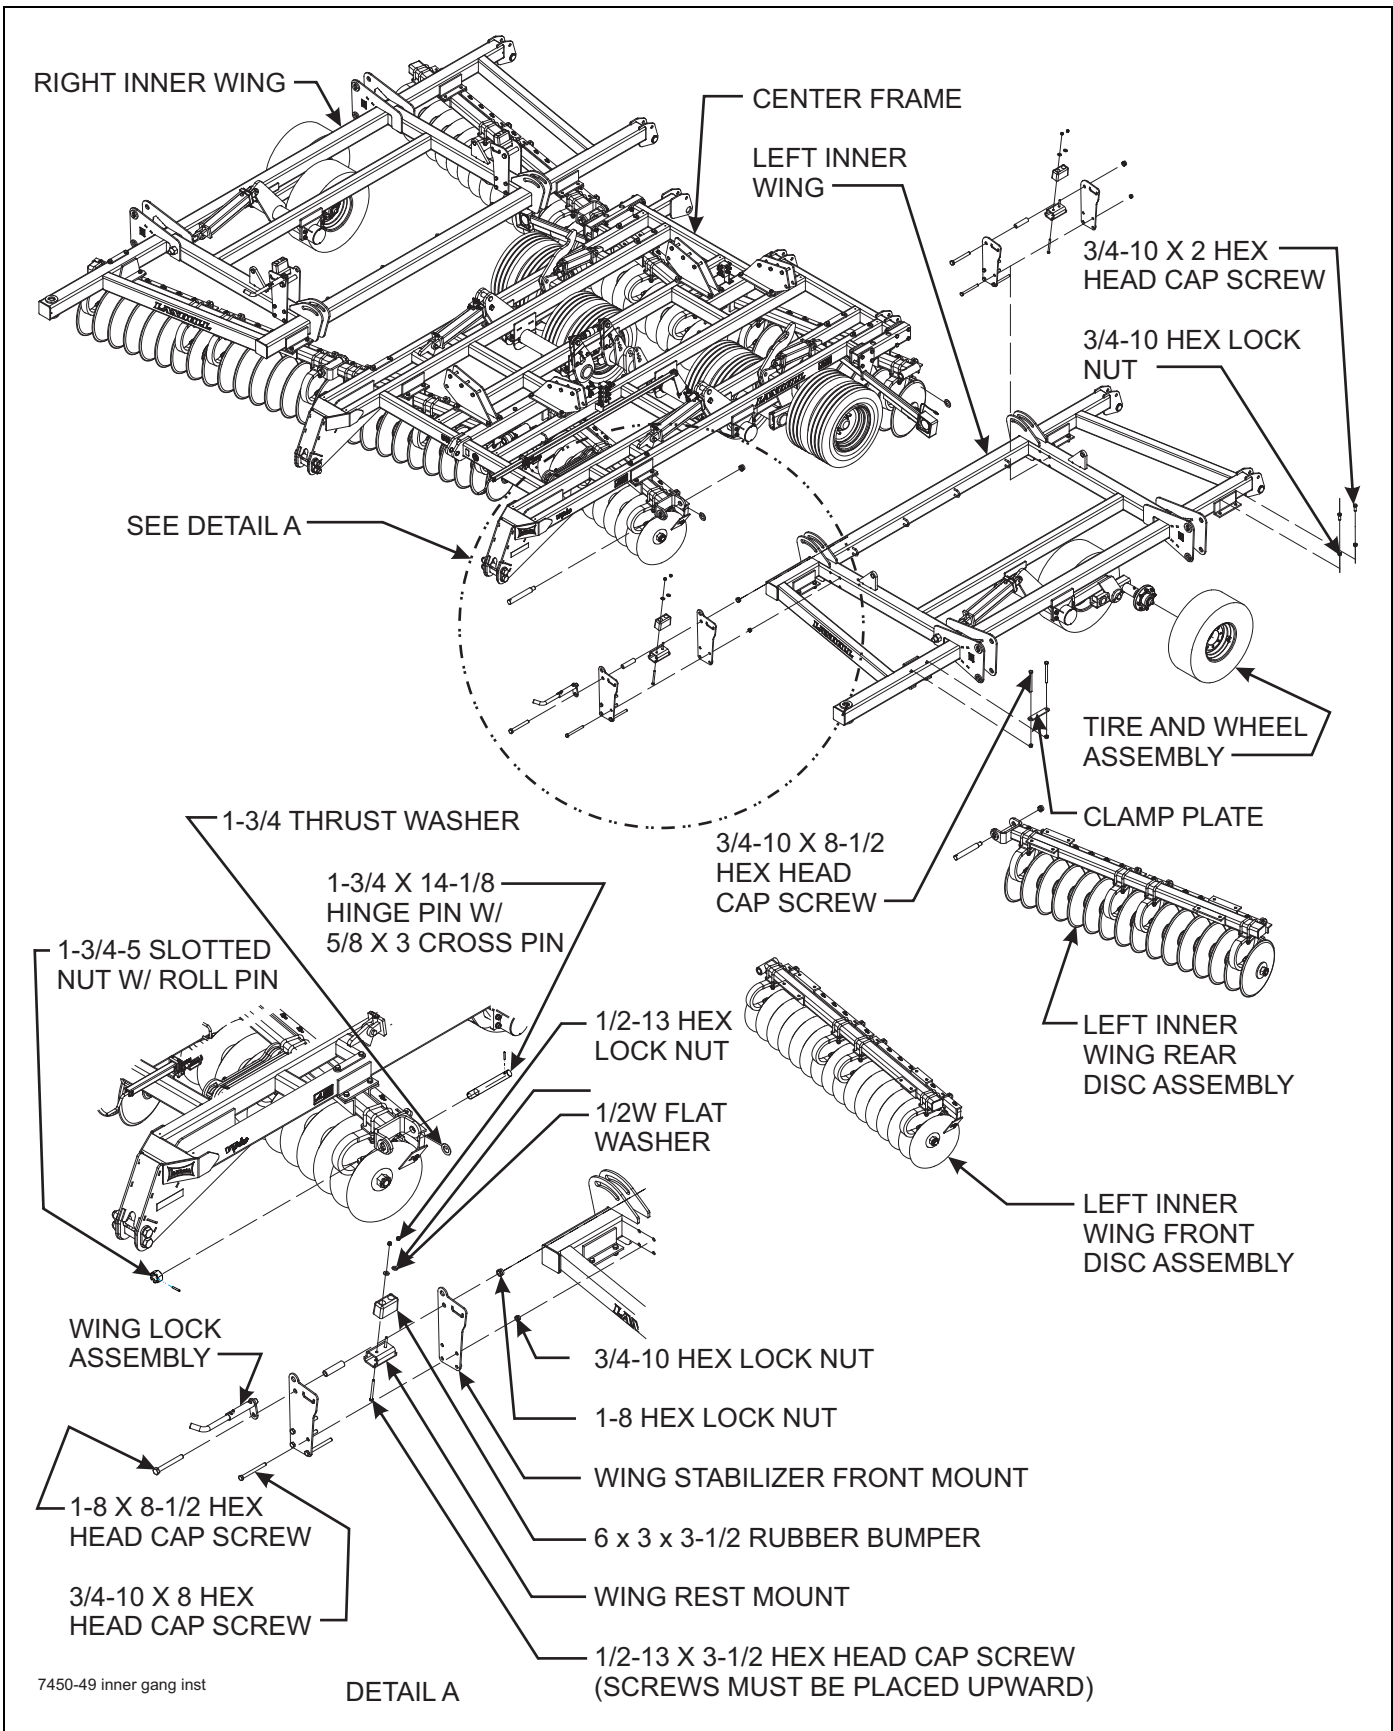

Figure 3-3: Inner Wing Frame Installation
1. Place the inner wing frames on top of the wing gang assemblies and attach using 3/4-10 x 2 and 3/4-10 x 8-1/2 hex head cap screws and hex lock nuts (**See Figure 3-3.**)